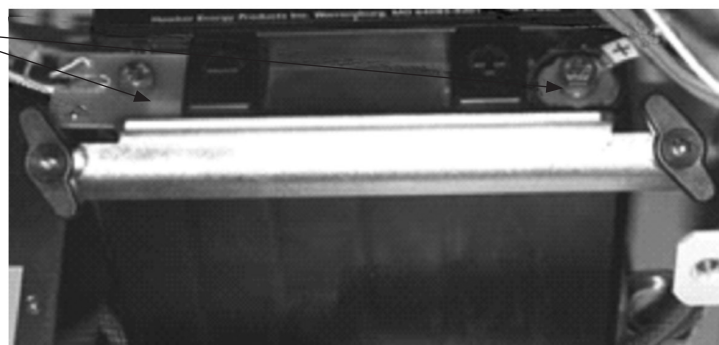

Figure 73
- Remove the temporary cable ties fixing the WA: RCM-BAT and connect to the battery terminals as shown in Fig. 73 (the plus clamp must be connected first)